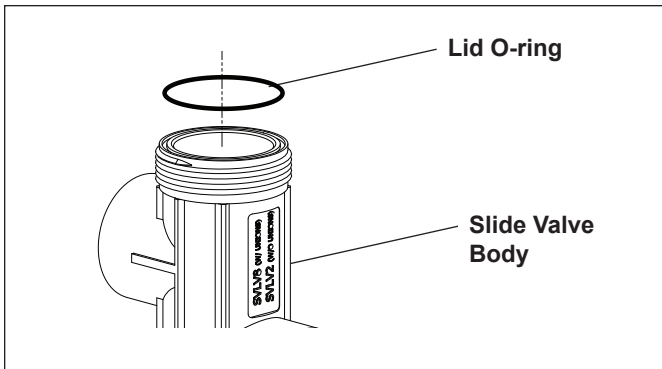

Figure 3. Remove Lid O-ring
4. Remove the existing lid o-ring (see Figure 3).